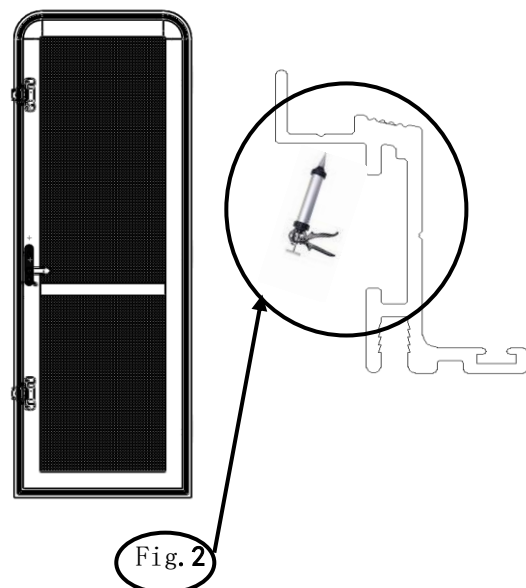

Fig. 2
2) Add sealing compound on the door frame As in Fig. 2.